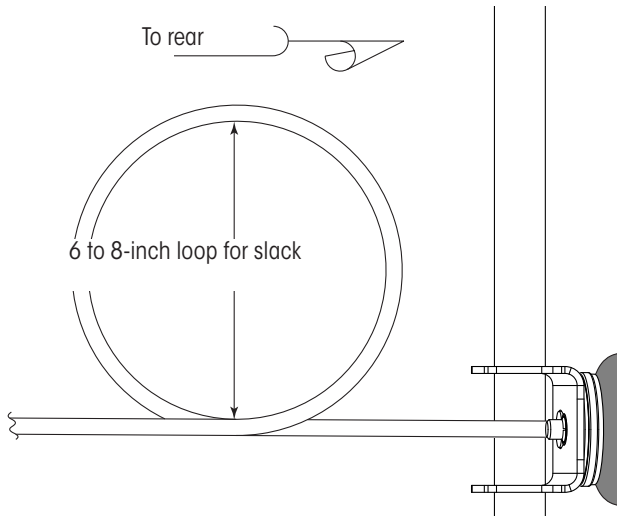

Figure 26: Creating a slack loop in the air line
3. **Make** a six to eight inch slack loop (Figure 26) in the air line near the front of the actuator.